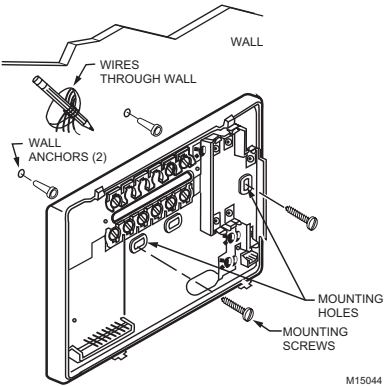

Fig. 2. Mounting the wallplate.
2. Use a pencil to mark the mounting holes. See Fig. 2.